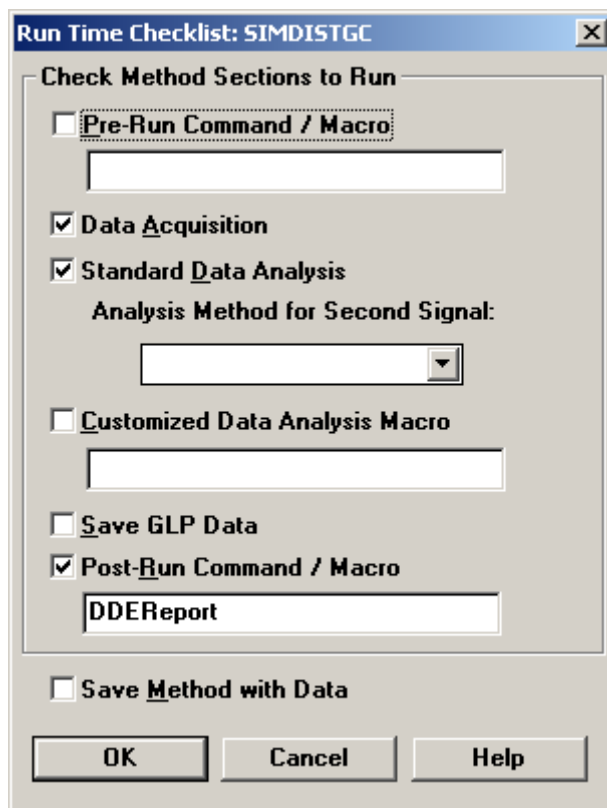

Figure 43 Setup for SimDis post-run processing
- 3** To ensure SimDis automatically starts at the end of every run under the method, do the following (Figure 43).